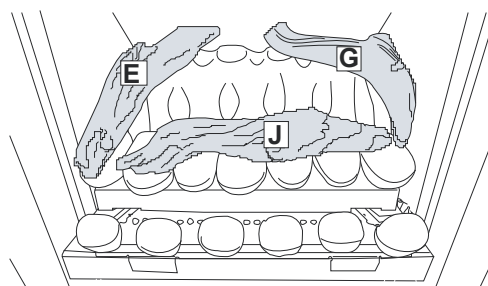

Figure 37
5. Place the **E, G** and **J** driftwood pieces as shown in **Figure 37** ensuring correct orientation.